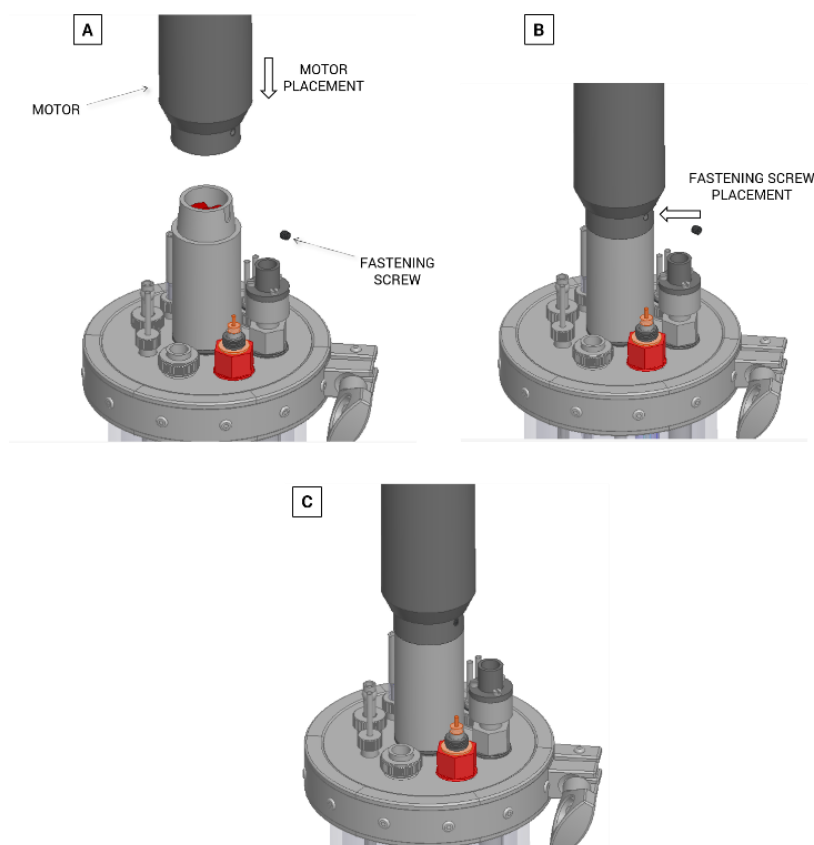

Figure 0.11. Motor installation
- 1) Turn the motor's clutch into an appropriate position, so that the magnetic couplings clutch fits inside the motors connection. Make sure to orient the motor so that the fastening screw position is aligned with the cavity of the magnetic couplings housing (see Figure 0.11.A).
- 2) Place the motor on the magnetic couplings housing (see Figure 0.11.B).
- 3) Using minimal force carefully tighten the fastening screw (see Figure 0.11.C).